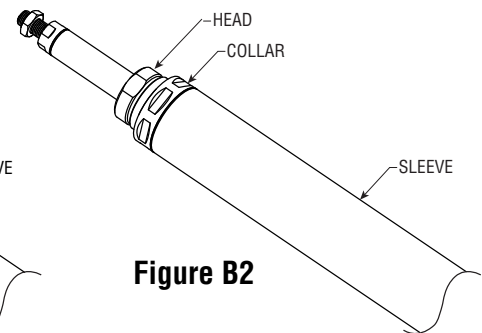

Figure B2
- b. While firmly holding the Head by the flats, remove the Collar (see Figure B2).